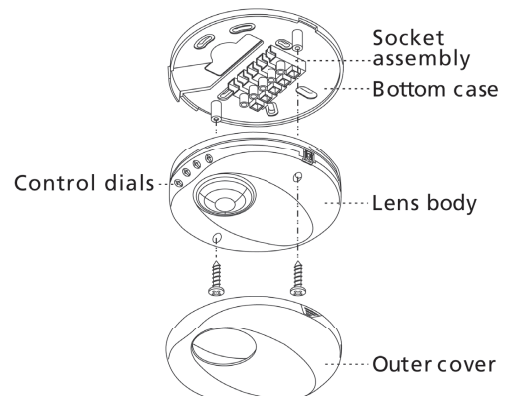

Fig. 8
3.3.2 (cont). The protection covers have teeth (see Fig. 8-A) giving a degree of cable clamping if power and load are connected by individual wires (0.8 -1.8mm dia.).